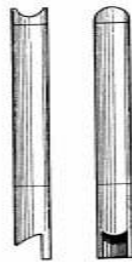

Fig. 9 Single dowel
- ✓ Single dowel (Fig. 9) is made on the end of lining material.